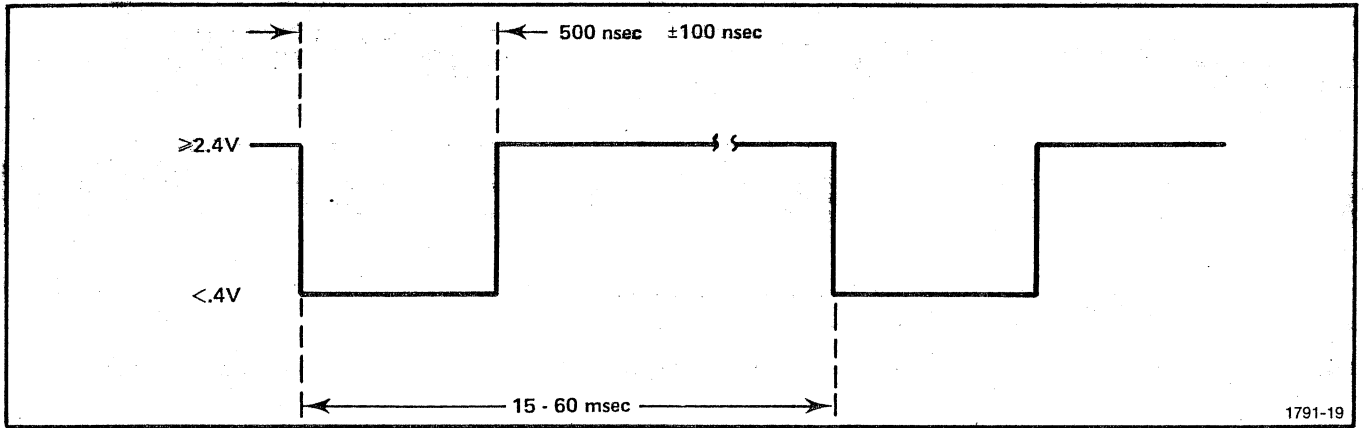

Fig. 4-1. Delay pulse timing.
4. Adjust R92 for a delay of approximately 30 ms between negative pulses and check for the pulses shown in Fig. 4-1.